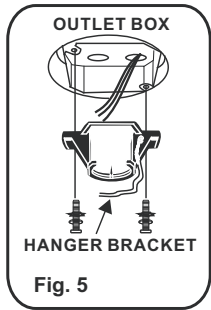

Fig. 5
Step 1. Secure the hanger bracket to the ceiling outlet box using screws and washers included with mounting hardware.(Fig.5)